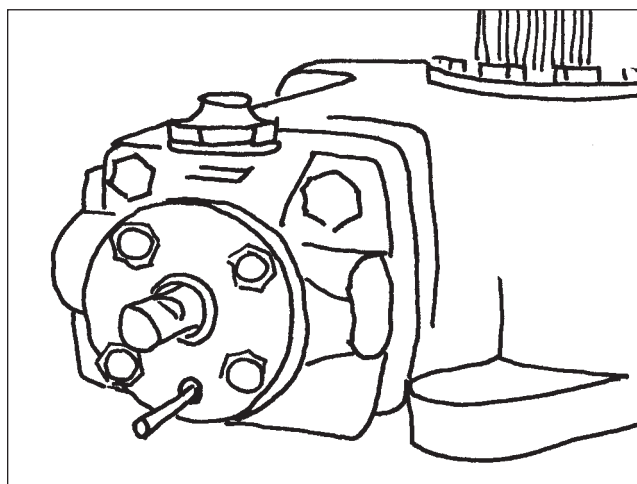

Figure 88
5. Remove the relief valve plungers from both ends of the gear. This will protect them from damage during repair (Figure 88).